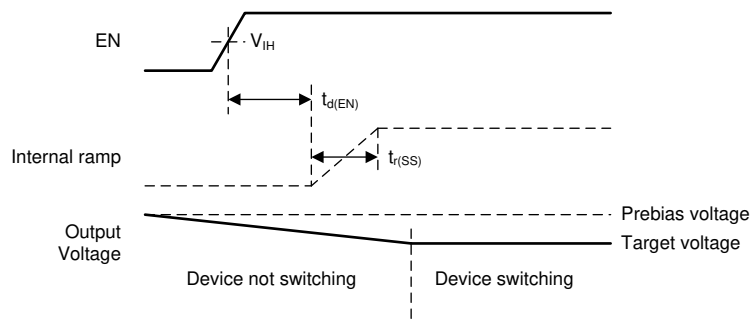

Figure 7-9. Start-Up Behavior into Prebiased (High) Output
- If the prebias voltage is *higher* than the target voltage, the device does not start to switch until the output voltage has decreased to the target voltage (see Figure 7-9). The device cannot actively discharge the output to the target voltage and relies on the load current to discharge the output capacitor and decrease the output voltage to the target value.